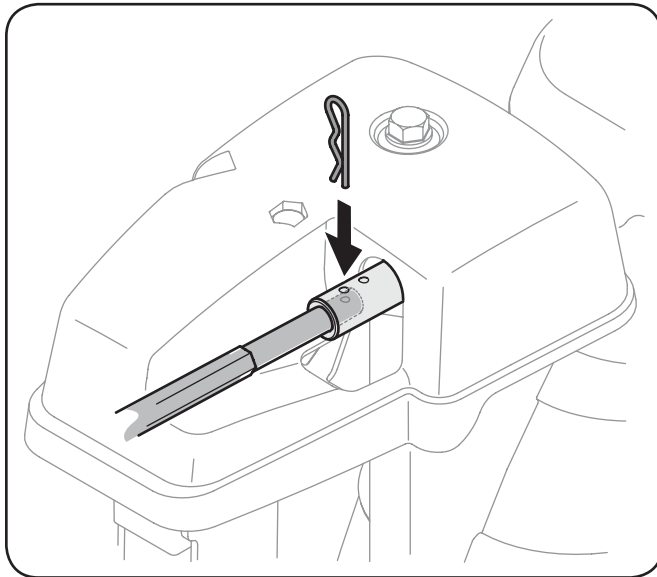

Figure 6-6
2. Pull out the chute control rod until the hole in it lines up with the second hole in the chute rotation assembly. See Fig. 6-6.
3. Reinsert the cotter pin through this hole and the chute control rod. See Fig. 6-6.